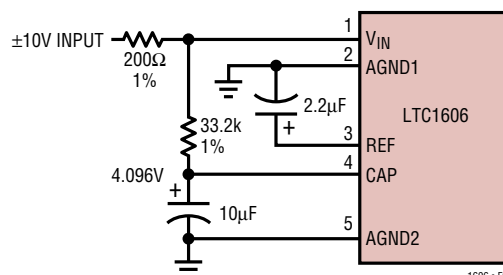
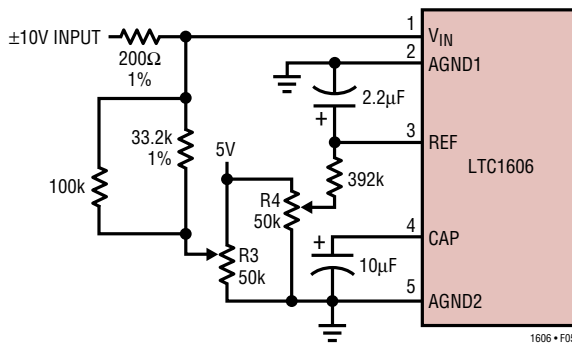

Figure 4.  $\pm 10V$  Input Without Trim
Figure 5.  $\pm 10V$  Input with Offset and Gain Trim
**Note 12:** As measured with fixed resistors shown in Figure 4. Adjustable to zero with external potentiometer.
The LTC1606 offset and full-scale errors have been trimmed at the factory with the external resistors shown in Figure 4. This allows for external adjustment of offset and full scale in applications where absolute accuracy is important. See Figure 5 for the offset and gain trim circuit. The 100k resistor in parallel with the 33.2k is only needed for externally trimming the offset. First, adjust the offset to zero by adjusting resistor R3. Apply an input voltage of  $-152.6\mu V$  ( $-0.5LSB$ ) and adjust R3 so the code is